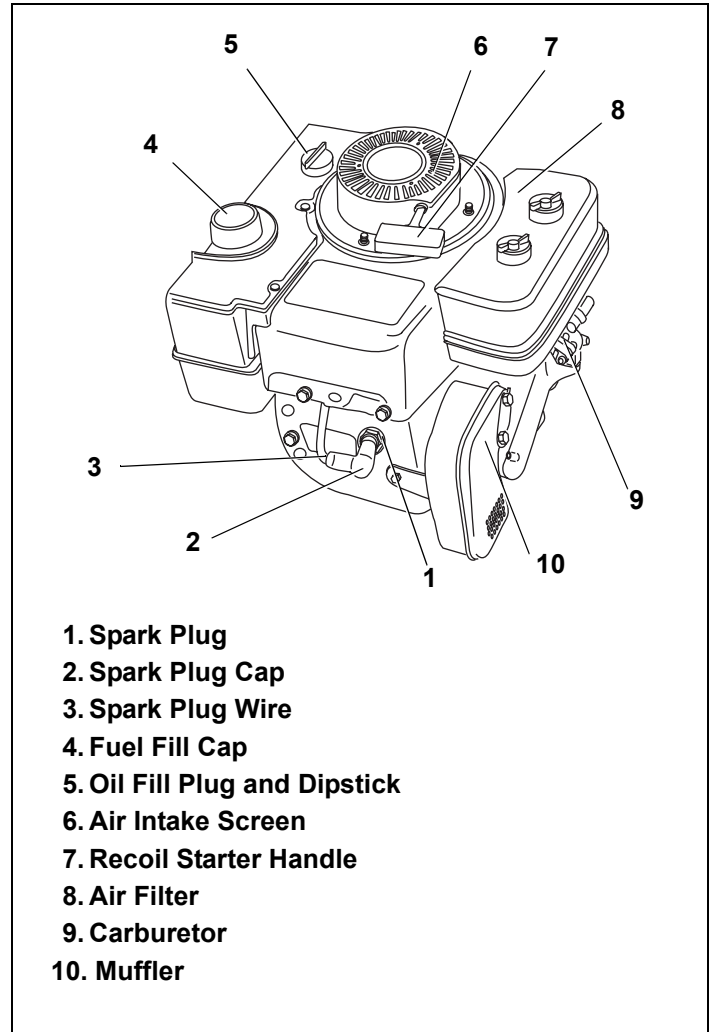

Figure 7. Engine Assembly with Oil Fill Dipstick
2. Unscrew oil fill cap from oil filler tube and wipe dipstick clean. See Figure 7.
3. Clean area around fuel fill cap and remove fuel fill cap. See Figure 7.